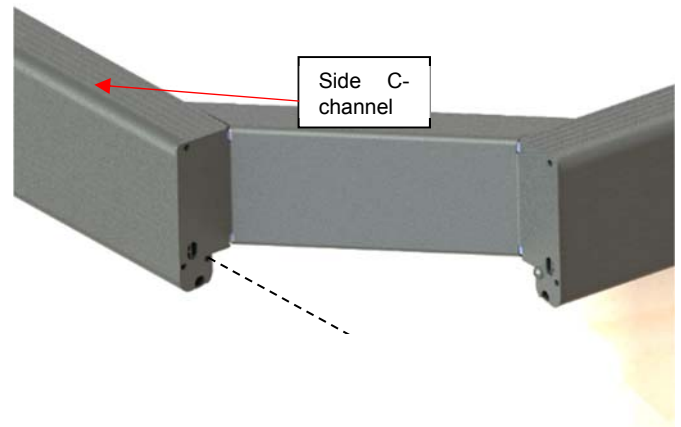

Figure 29
29) Insert the corner bracket on the tapered part of one end panel. Use the provided Robertson sheet metal #8 x 1/2" screws on the inside hole. **The two remaining holes will be used later** (Figure 29).